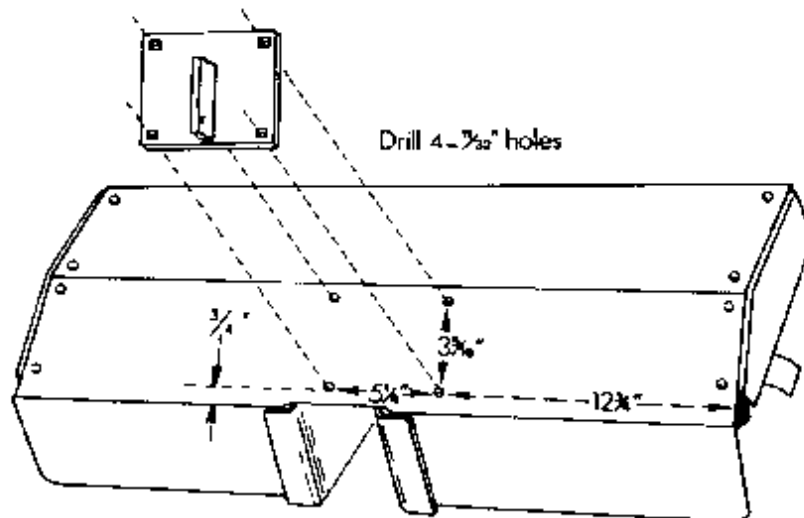

Figure 1. Lift Plate Holes, 7-1252 Modification
3. The following parts are also required, as applicable. Figure 1 shows the hole locations for mounting the lift plate. The lift plate is installed so the lift chain hole is down (closest to gearcase).